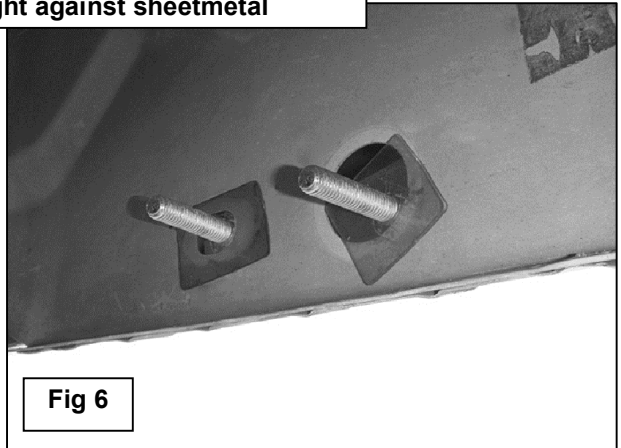

Fig 6
the smaller round hole on the inside of the rocker panel. Continue to thread the Plastic Retainer down the Bolt Plate until it is flush with the sheetmetal. Thread (1) Plastic Retainer onto the remaining threaded end on the Bolt Plate, **(Figure 6)**. **IMPORTANT:** The Plastic Retainer is designed to prevent the Bolt Plate from falling into the body cavity and to aid in mounting the Bracket.